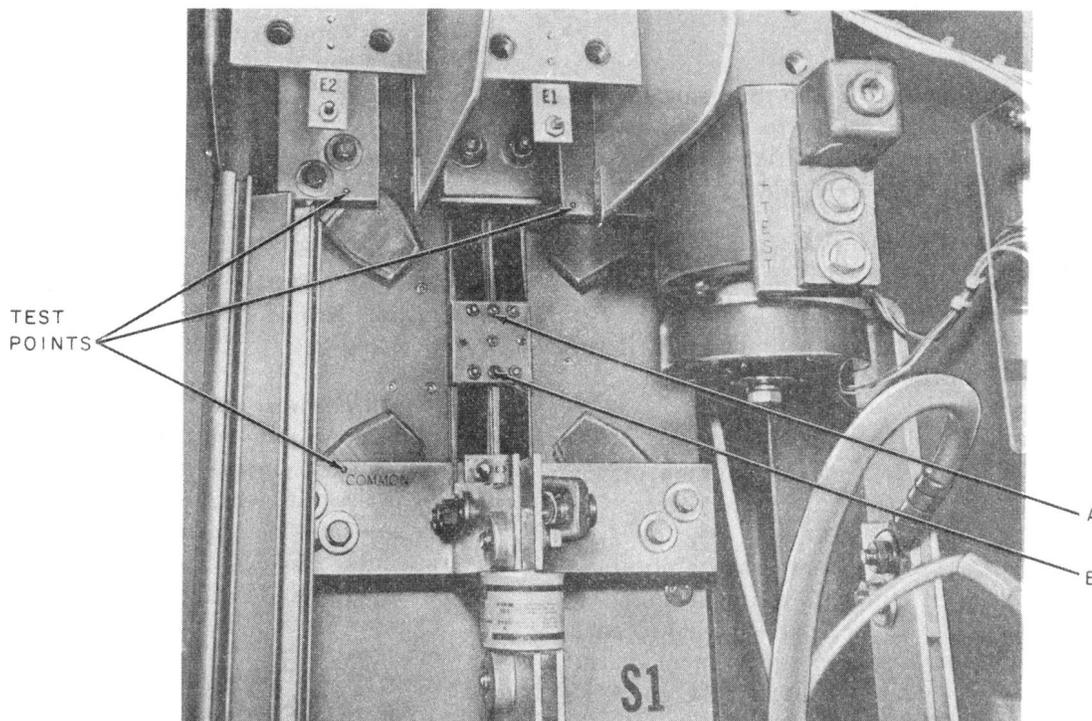

Fig. 2—DC OUTPUT (S1) Switch—Rear View
(b) The negative lead of the voltmeter should be placed inside the letter O stamped on the bus link directly below the lower left contact. This bus is stamped COMMON. Refer to Fig. 2.
(b) Rotate the center pole until it is in a horizontal position. Remove the two screws A and B shown in Fig. 2. The entire center pole assembly may now be withdrawn. This allows easier access to the fixed contacts for cleaning and inspection. The inner surfaces of the center arm rotary contacts can now be cleaned in accordance with subparagraphs 3.05(7) through 3.05(9).